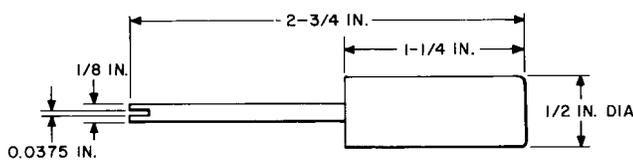

Fig. 14—KS-19915, L1, Adjuster
2.15 **KS-19915, L1:** The KS-19915, L1, adjuster (Fig. 14) is for use in adjusting contact separators on the BF-, BG-, BJ-, and BL-type relays.